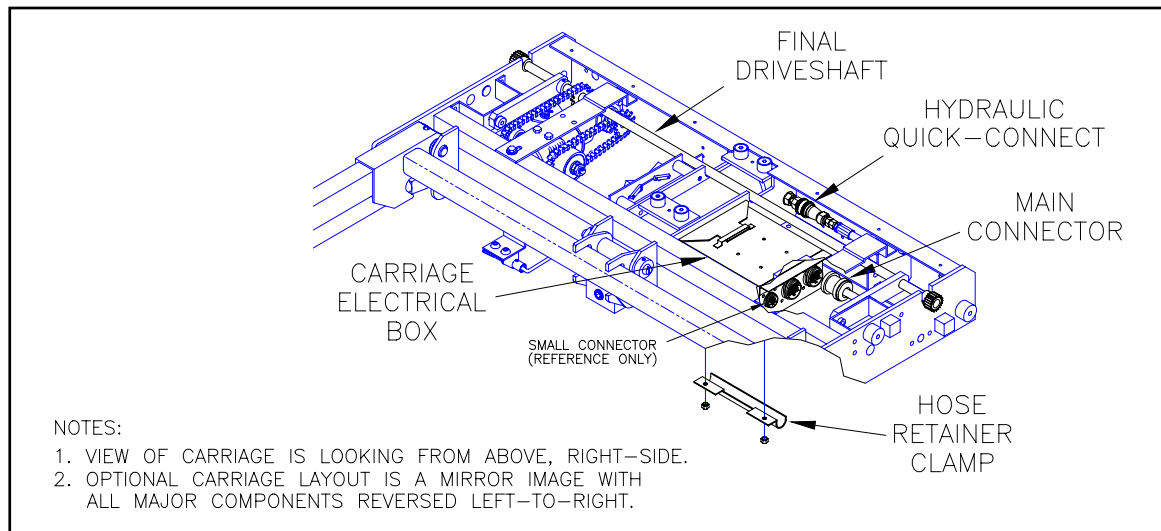

FIGURE 4-15: TRAVELING FRAME (CARRIAGE) REFERENCE DIAGRAM
- 5) Refer to **Figure 4-15**. Pull the final drive shaft DOWN (to disengage the gear rack) and tie it down with cable ties.